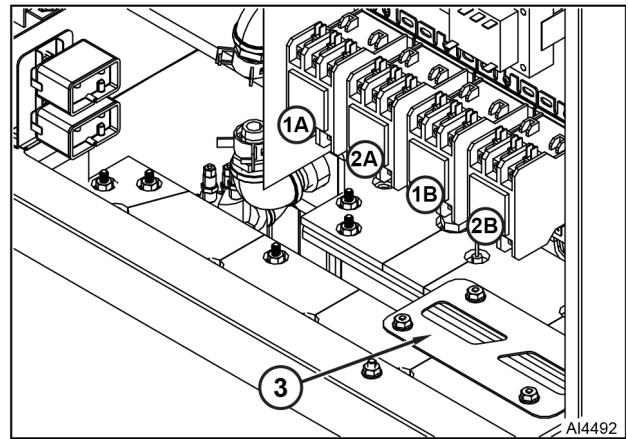

Fig. 23
- Disconnect heating element lead wires from limiting contactor (1A or 2A) Fig. 23 and regulating contactor (1B or 2B).